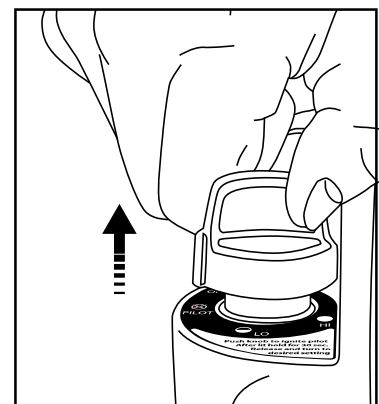

Figure 4: Release knob.
- After pilot lights, hold down for 30 -60 seconds and then release knob. Knob should return to fully extended position; see Figure 4. To operate heater
- After pilot lights, hold down for 30 -60 seconds and then release knob. Knob should return to fully extended position; see Figure 4. The pilot should remain lit. To operate heater slightly depress knob and gently turn to lock in the "HI" position to light burner tile. Leave on "HI" position until burner tile turns bright orange.